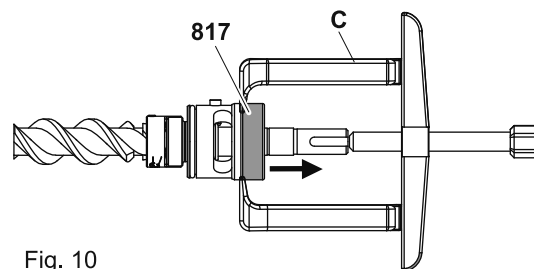

Fig. 10
- Pull the ball bearing 817 from the main screw using a suitable extractor C, see Fig. 10.